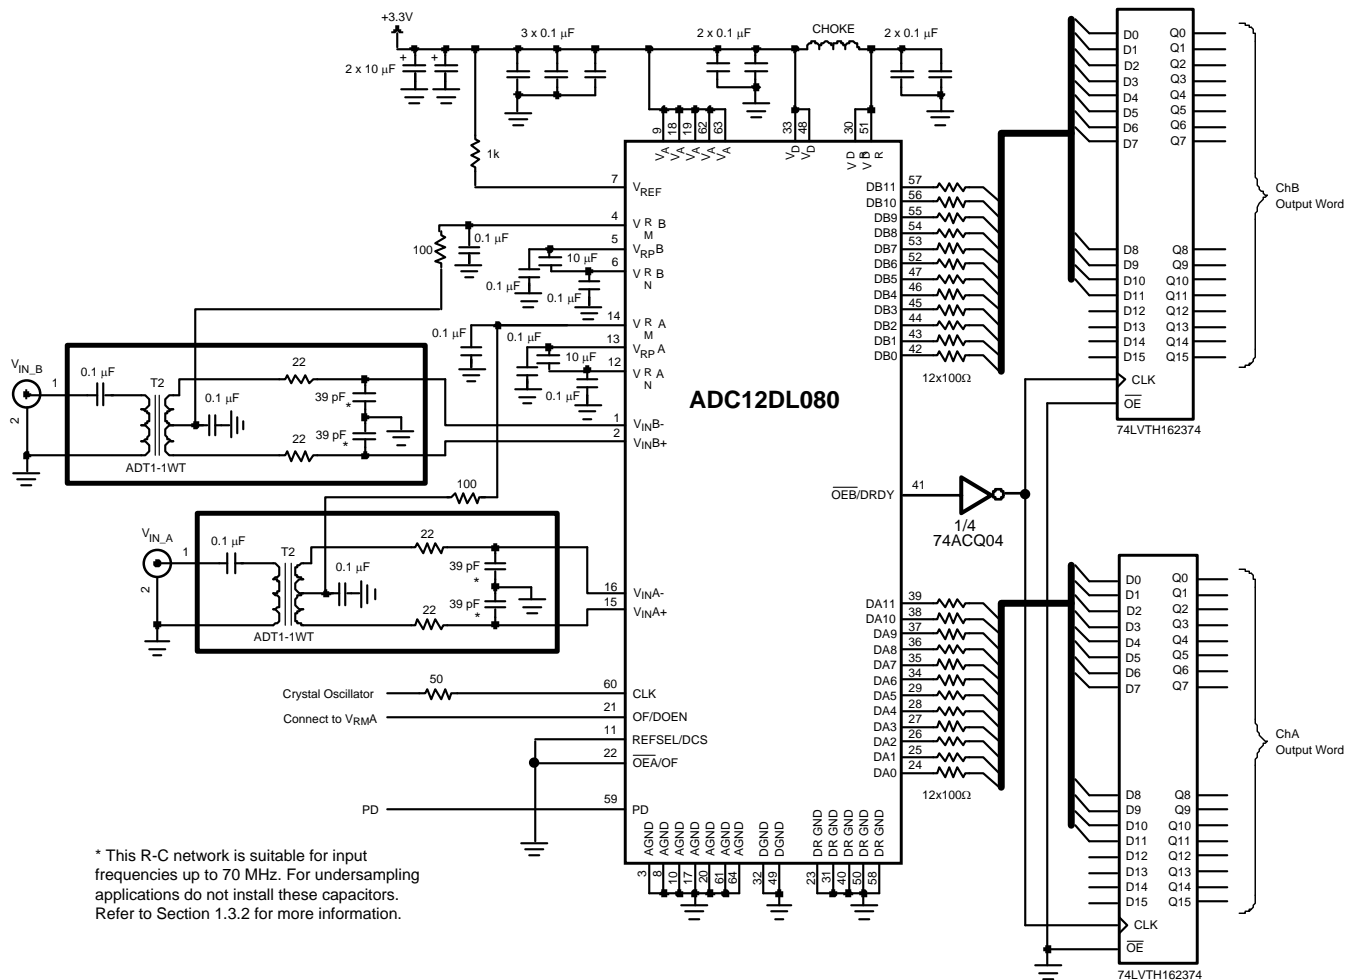
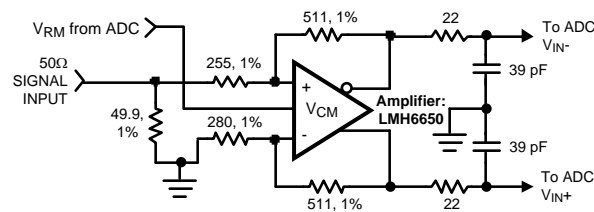

Figure 43. Application Circuit using Transformer Drive Circuit
Figure 44. Optional Amplifier Drive for Circuit in Figure 43
The six Reference Bypass Pins ( $V_{RP}A$ ,  $V_{RM}A$ ,  $V_{RN}A$ ,  $V_{RP}B$ ,  $V_{RM}B$  and  $V_{RN}B$ ) are made available for bypass purposes. All these pins should each be bypassed to ground with a 0.1  $\mu$ F capacitor. A 10  $\mu$ F capacitor should be placed between the  $V_{RP}A$  and  $V_{RN}A$  pins and between the  $V_{RP}B$  and  $V_{RN}B$  pins, as shown in Figure 43. This configuration is necessary to avoid reference oscillation, which could result in reduced SFDR and/or SNR.
The  $V_{IN+}$  and the  $V_{IN-}$  inputs of the ADC12DL080 consist of an analog switch followed by a switched-capacitor amplifier. As the internal sampling switch opens and closes, current pulses occur at the analog input pins, resulting in voltage spikes at the signal input pins. As the driving source attempts to counteract these voltage spikes, it may add noise to the signal at the ADC analog input. To help isolate the pulses at the ADC input from the amplifier output, use RCs at the inputs, as can be seen in Figure 43 and Figure 44. These components should be placed close to the ADC inputs because the input pins of the ADC is the most sensitive part of the system and this is the last opportunity to filter that input.
For Nyquist applications the RC pole should be at the ADC sample rate. The ADC input capacitance in the sample mode should be considered when setting the RC pole. For wideband undersampling applications, the RC pole should be set at about 1.5 to 2 times the maximum input frequency to maintain a linear delay response. The values of the RC shown in Figure 43 and Figure 44 are suitable for applications with input frequencies up to approximately 70MHz.
To minimize noise due to output switching, minimize the load currents at the digital outputs. This can be done by connecting buffers (74LVTH162374, for example) between the ADC outputs and any other circuitry. Only one driven input should be connected to each output pin. Additionally, inserting series resistors of about 100 $\Omega$  at the digital outputs, close to the ADC pins, will isolate the outputs from trace and other circuit capacitances and limit the output currents, which could otherwise result in performance degradation. See Figure 43.
**Using an inadequate amplifier to drive the analog input.** As explained in Signal Inputs, the capacitance seen at the input alternates between 8 pF and 7 pF, depending upon the phase of the clock. This dynamic load is more difficult to drive than is a fixed capacitance. If the amplifier exhibits overshoot, ringing, or any evidence of instability, even at a very low level, it will degrade performance. A small series resistor at each amplifier output and a capacitor at the analog inputs (as shown in Figure 44) will improve performance.